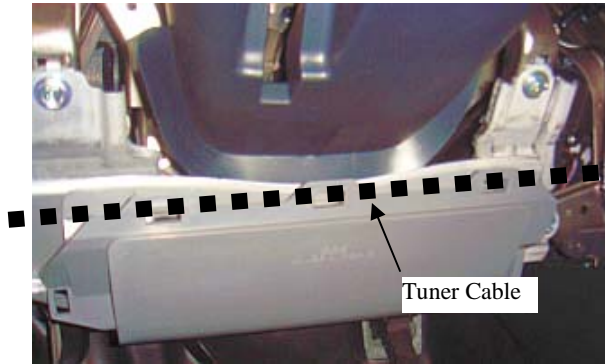

Fig 7-2
- (d) The tuner cable needs to be routed behind the bracket, above the air bag module to prevent interference. (Fig. 7-2)